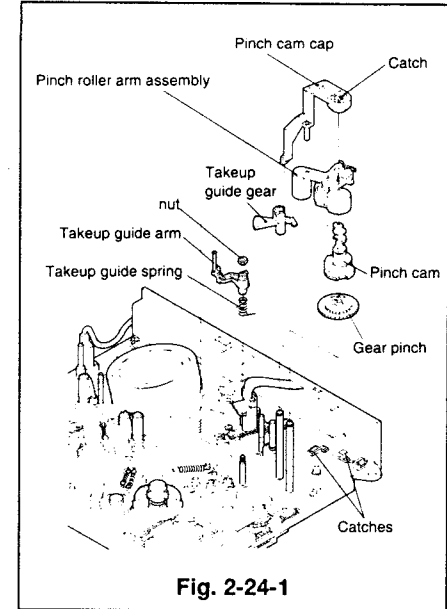

Fig. 2-24-1
- 1 Unfasten the catch shown in Fig. 2-24-1 and raise the pinch cam cap upward to remove it.